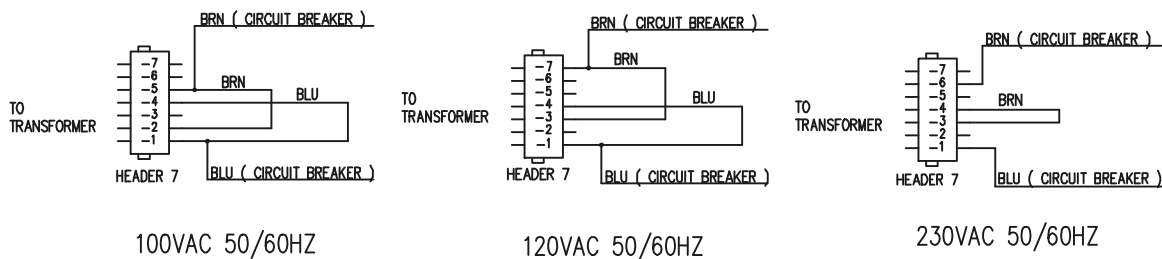

Figure 3-21. Isolation Transformer Input Taps
12. Confirm that the secondary side taps are set up as shown in the diagram in Figure 3-21. These diagrams can also be found on the inside of the Torroid Assembly Cover.
Note: The terminology “Header 7” used on Figure 3-21, and on the inside of the Torroid Assembly Cover, comes from the schematic for the assembly (it is a 7-pin terminal block “header”). The tables above refer to the same terminal block as TB2 (the designation on the assembly drawing).
Before plugging in the Discovery, measure the voltage (neutral to phase) with an AC voltmeter at the outlet from which the unit will draw power. The measured voltage must be within $\pm 10\%$ of the voltage shown on the power label (located where the power cord attaches to the Torroid Power Module). The Discovery Torroid Assembly is a step up/step down isolation transformer, which can be re-strapped to accommodate other input voltages. See Figure 3-21 for the most common configurations of the isolation transformer.
Note: The voltage should be between 110 VAC and 130 VAC. If the voltage is out of this range, recheck the voltage at the wall outlet, and the strapping of the isolation transformer as shown in Figure 3-21.